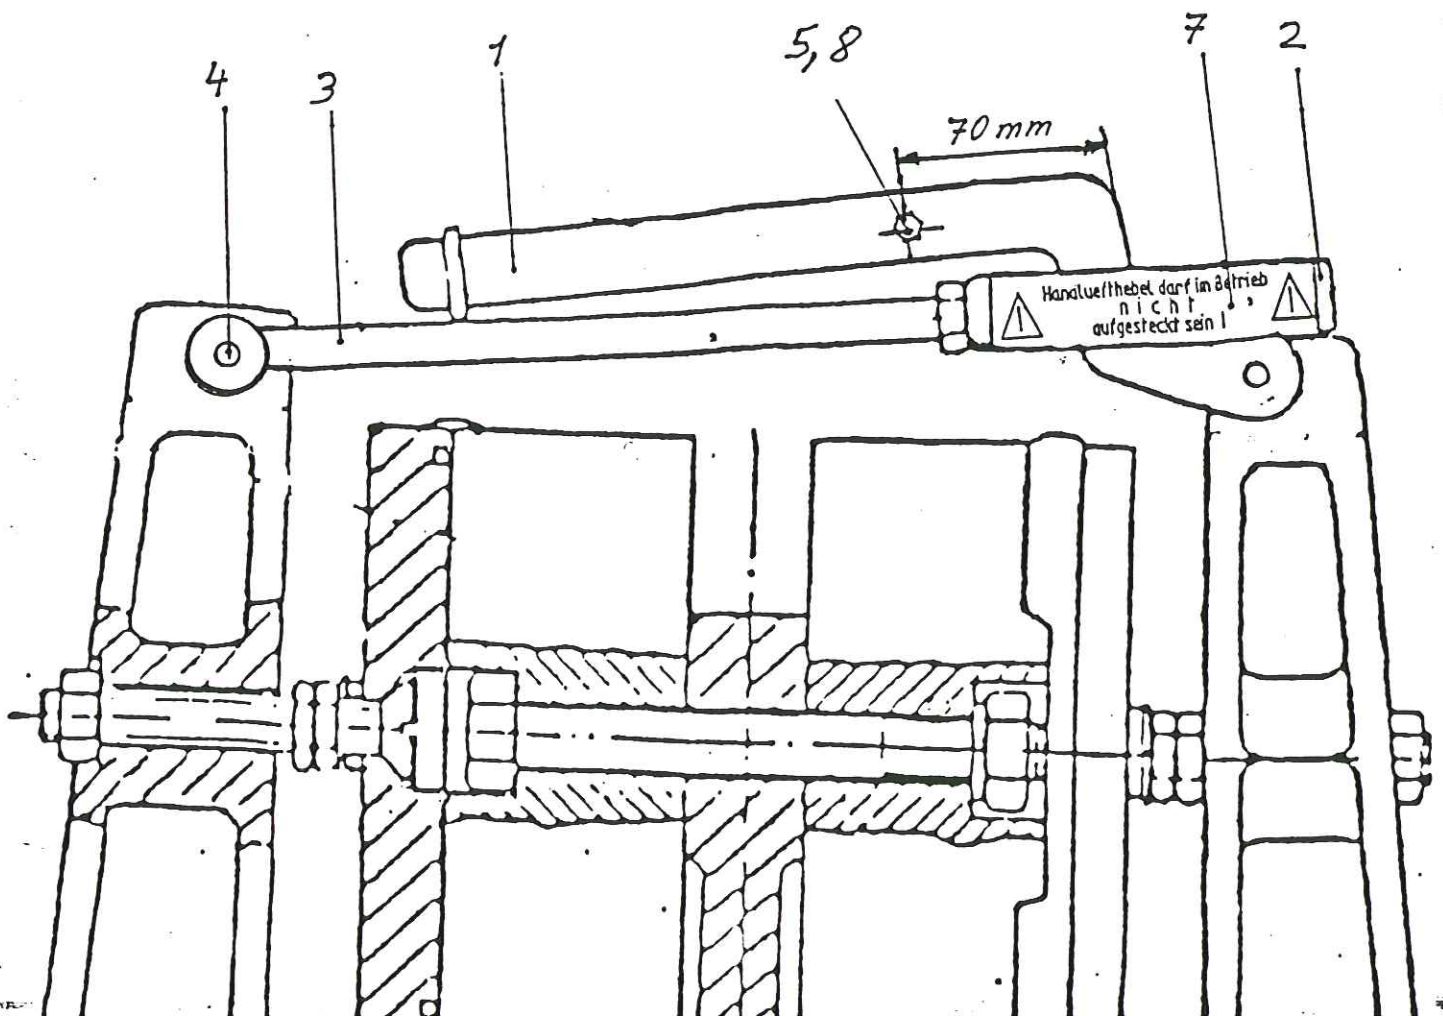

Bild 2 / Figure 2:
- 6.) Fit the set screw (5) and nut in the prepared hole as per Item (2), on to the hand lever.
- 8.) Fix the remaining warning label (6) on to the top of the gear housing close to the brake coil assembly as fig. 2.